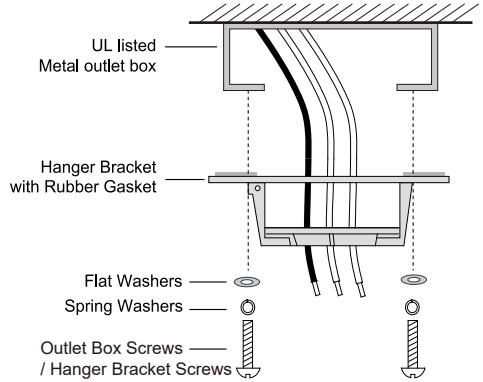

Fig.5
**Step 1.** Secure the hanger bracket to the ceiling outlet box using screws and washers included with mounting hardware. (Fig.5)
2. Pass the 120-volt supply wires through the center hole in the ceiling hanger bracket as shown in Fig. 5.